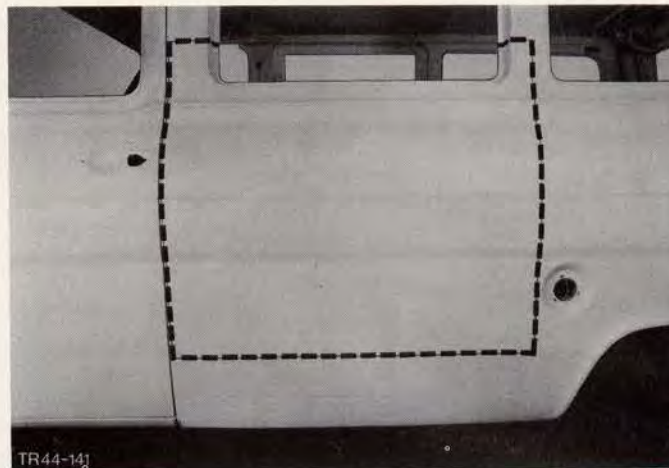

Fig.144. Mark out side panel cut lines.
6. Mark out cut line of side panel and inside window panel, Fig.144 and 145.